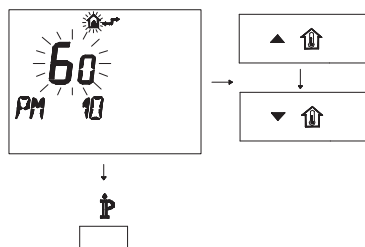

Figure 5.48
- To modify the programmed SET, press ▲⏏ or ▼⏏ and wait for the programmed number to start to flash (Figure 5.48).